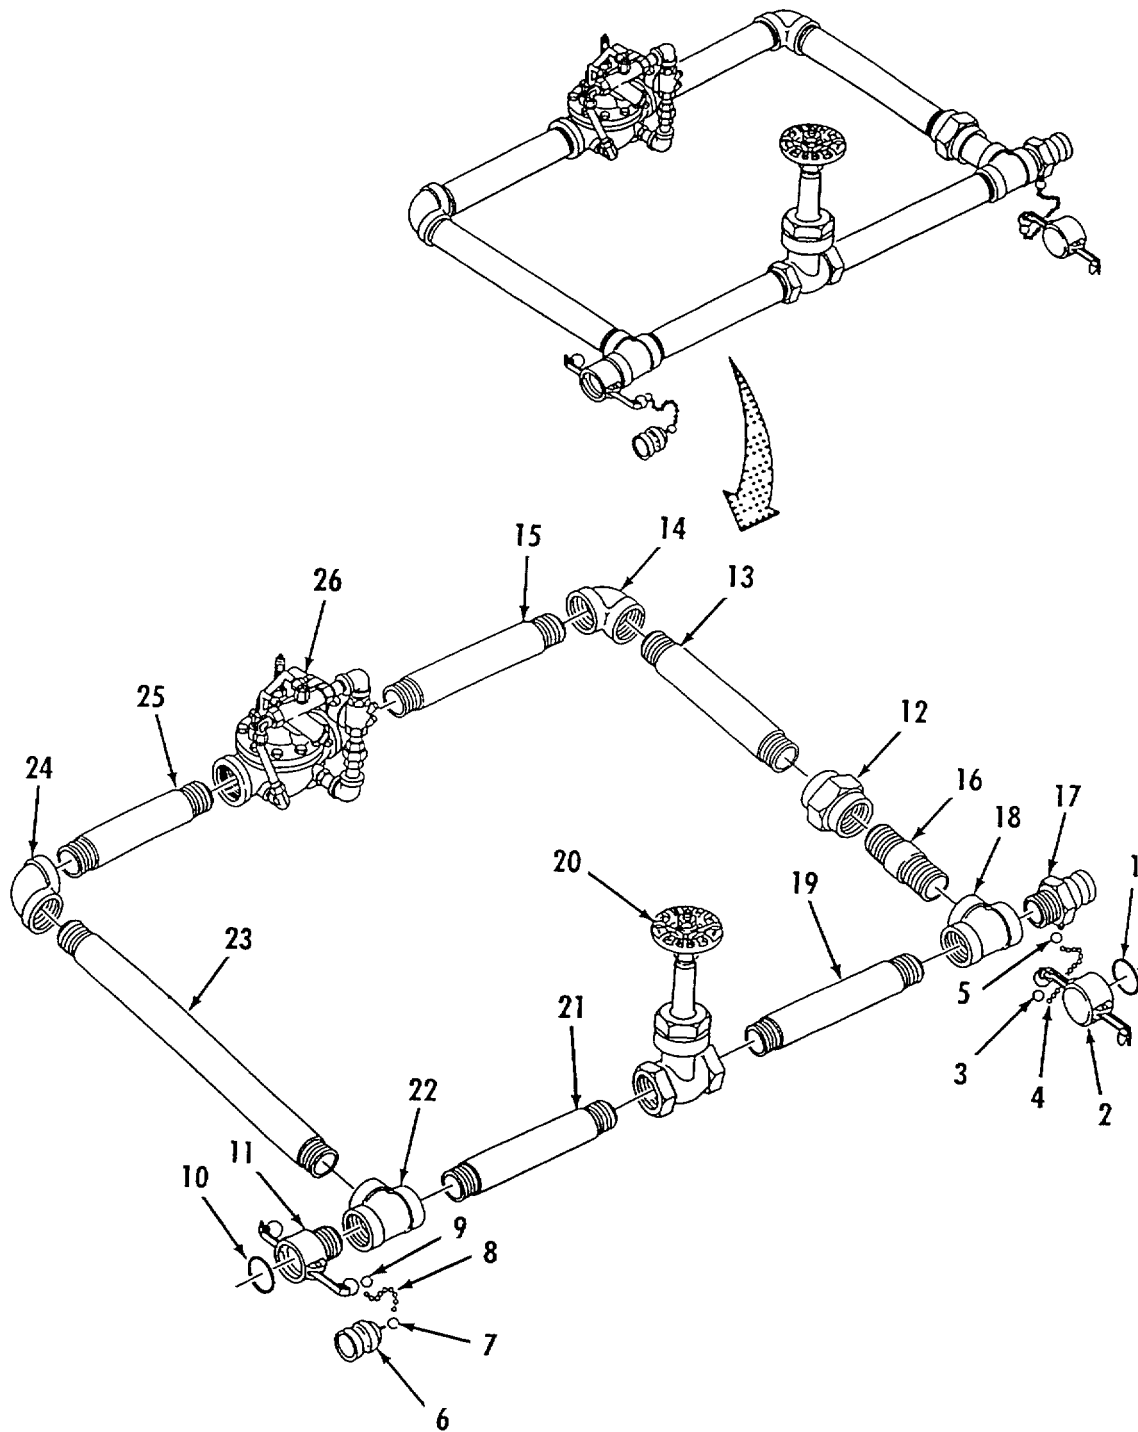

Figure 4-7. Pressure Reducing Assembly Repair.
b. Disassembly. Refer to figure 4-7
e. Assembly Refer to figure 4-7.
- (1) Apply thread sealant to male threads of all pipe components.
- (2) Install tube (25) on pressure regulating valve (26).
- (3) Install elbow (24) on tube (25).
- (4) Install tube (23) on elbow fitting (24).
- (5) Install tee (22) on tube (23).
- (6) Install tube (21) on tee fitting (22).
- (7) Install gate valve (20) on tube (21).
- (8) Install tube (19) on gate valve (20).
- (9) Install tee fitting (18) on tube (19).
- (10) Install male coupling half (17) and nipple (16) on tee fitting (18).